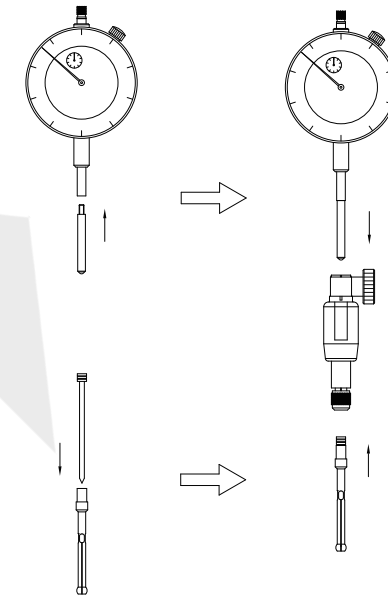

fig.1
- (1) Install the inner diameter gage according to fig.1